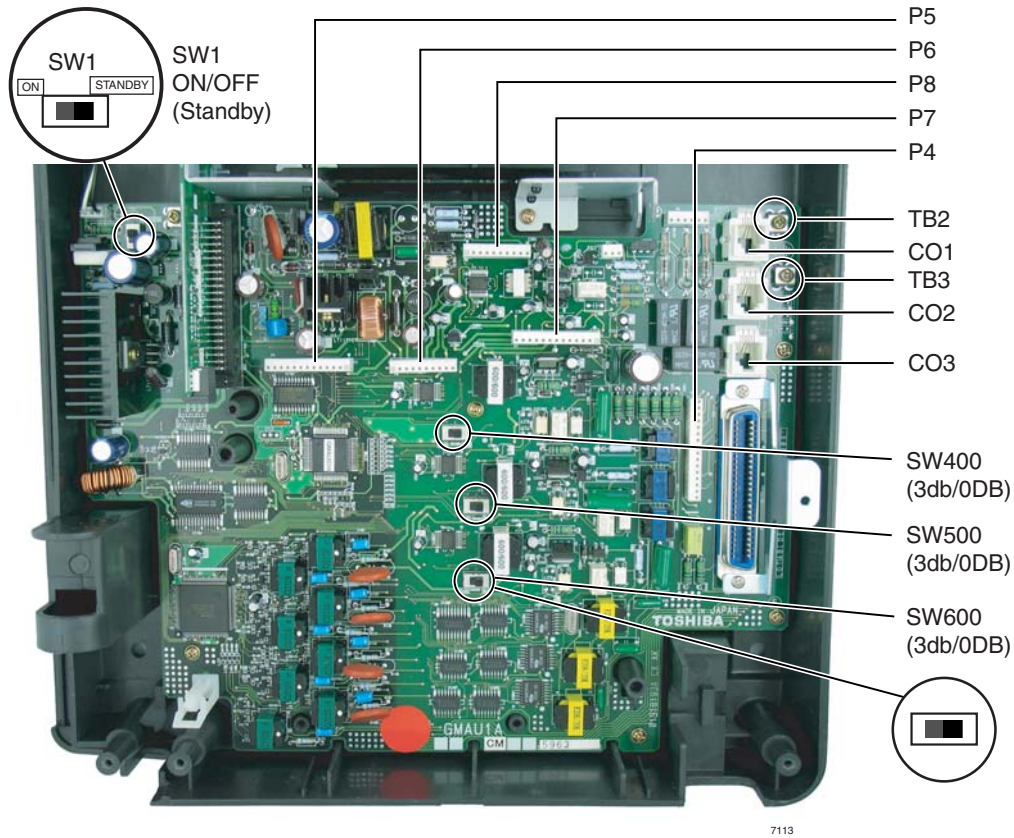

Figure 1-7 GMAU PCB
1. Apply proper settings on the GMAU1A (motherboard Figure 1-7).
The GMAU1A (shown in Figure 1-7) supports up to 6 CO lines with Caller ID (CLID).